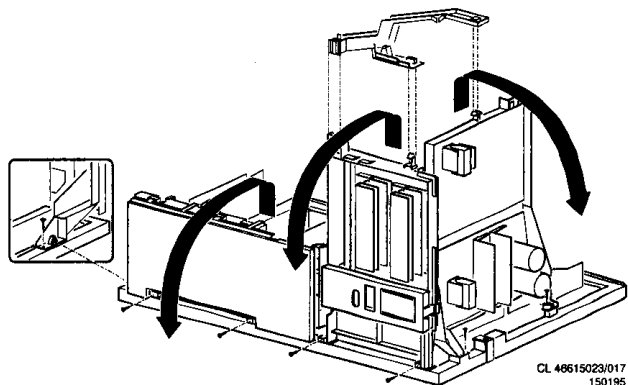

Fig. 4
4.3 The service position of the other panels (Fig. 4)
4.5 Removing the Large Signal Panel (Fig. 4)